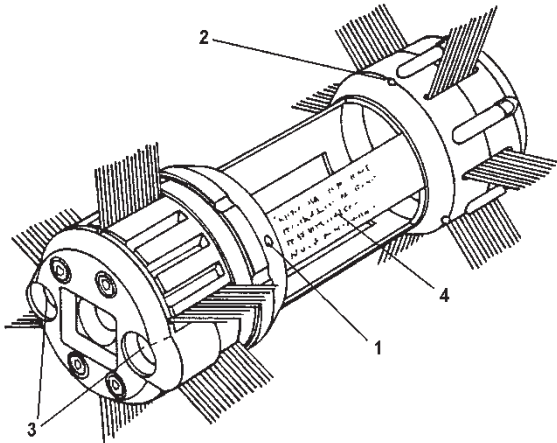

Figure 2.8 P222 / P417 Lighthouse - External Checks
4. Ensure that the certification engraving (4) is shown in Figure 2.8.